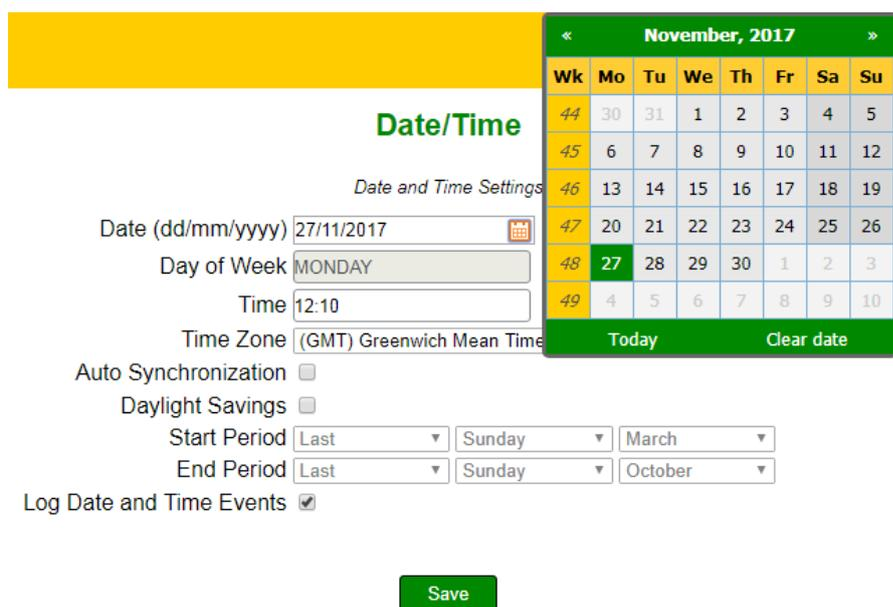

Figure 10.37. Date Selection with Pop-up Calendar
- **Date** - sets the date of the onboard RTC module. Format is (dd/mm/yyyy). Date can be selected when clicked on the text field when **Auto Synchronization** option is not checked. Calendar will pop-up and date selection can be made (**Figure 10.37**).